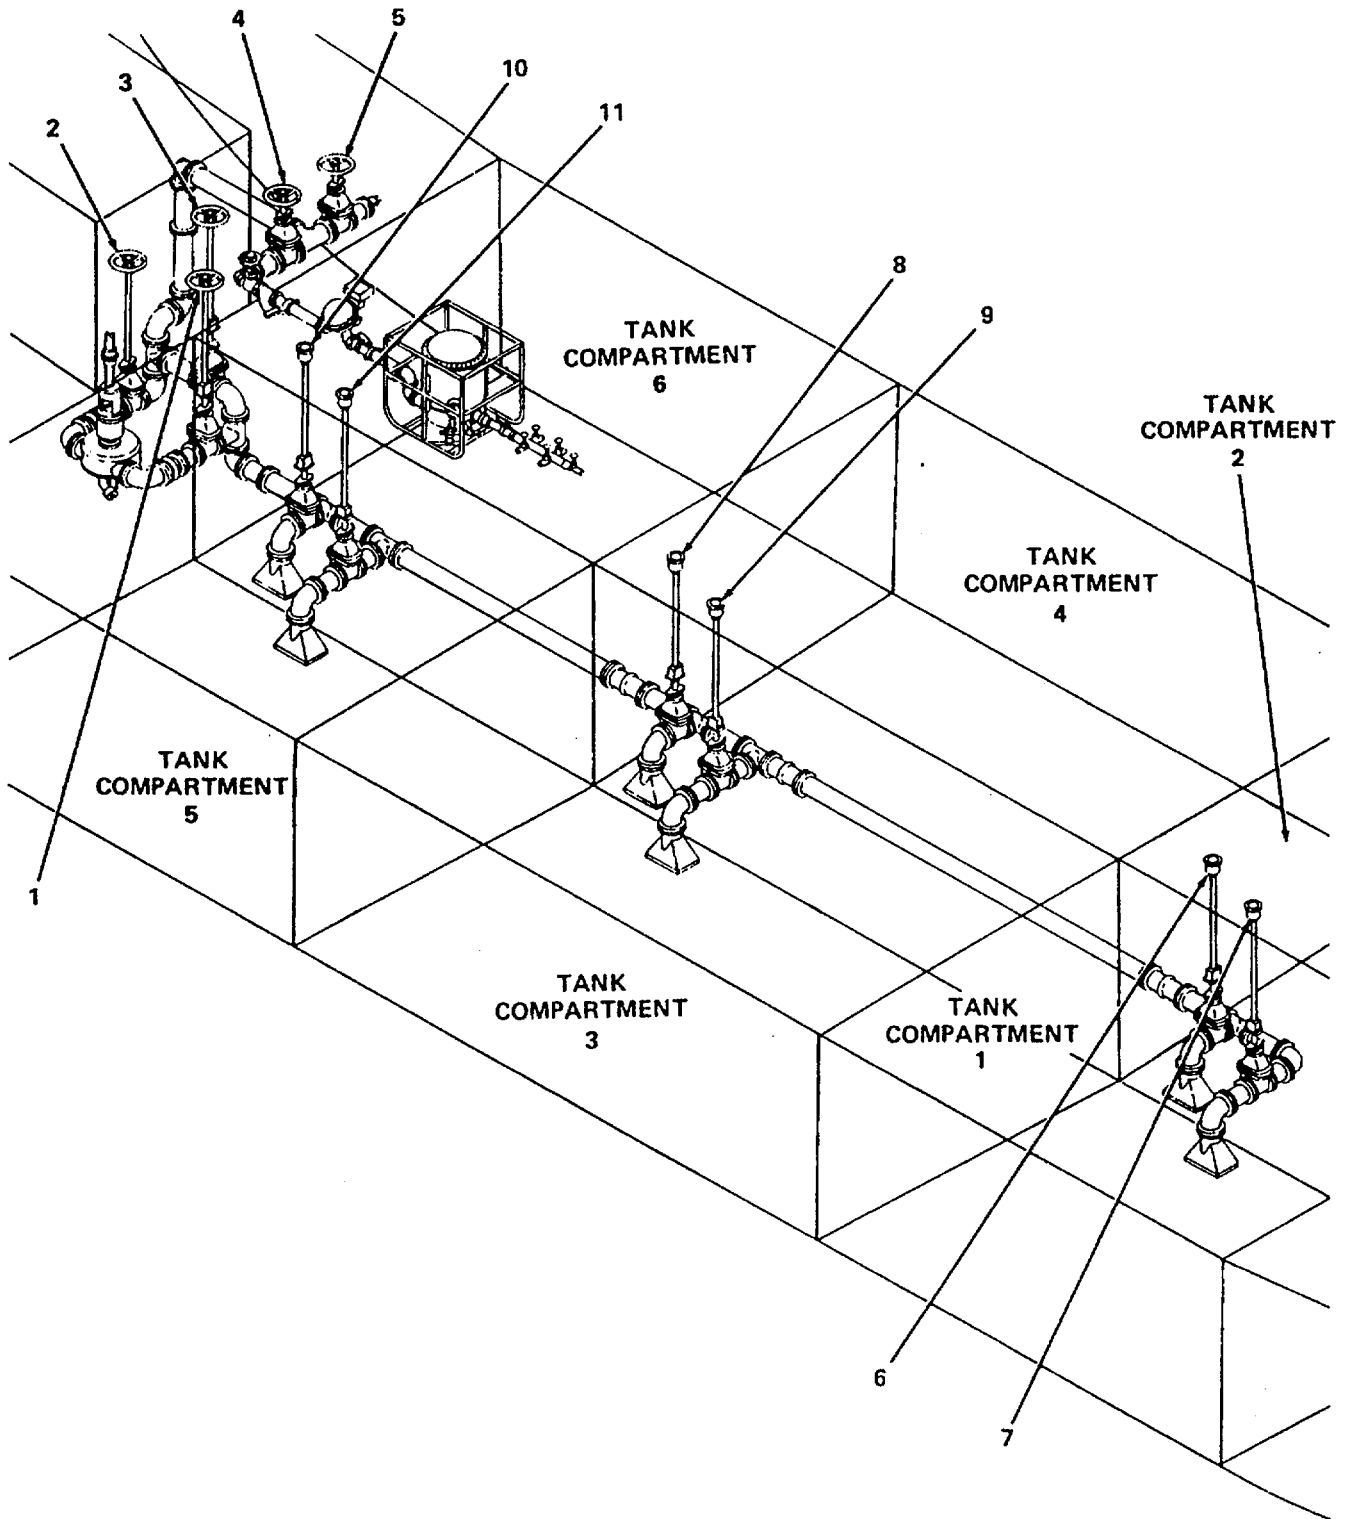

Figure 2-11. Valve Positions for Cargo Unloading.
(13) While engine is warming up to operating temperature, preset the valves in cargo transfer piping. If a full, unmixed cargo is to be unloaded, see figure 2-11 and set valves as follows:
- (a) Open pump suction valve (1).
- (b) Open pump discharge valve (2).
- (c) Close bypass valve (3).
- (d) Close riser discharge valve (4).
- (e) Open riser filling inlet valve (5).
- (f) Open cargo tank valve on tank number two (6).
- (g) Open cargo tank valve on tank number one (7).
- (h) Open cargo tank valve on tank number four (8).
- (i) Open cargo tank valve on tank number three (9).
- (j) Close cargo tank valve on tank number six (10).
(7) Refer to figure 2-11 and use the following procedure for unloading a full, unmixed load.
(6) When carrying a heated viscous cargo, the responsible person at discharge point should be notified as to the nature of the cargo so that priority can be granted.
(7) Reduce speed of cargo pump while unloading viscous cargo.
(8) Clear cargo lines and hose after unloading a particular product. Open suction valve (1, figure 2-11) and operate pump for a short period of time.